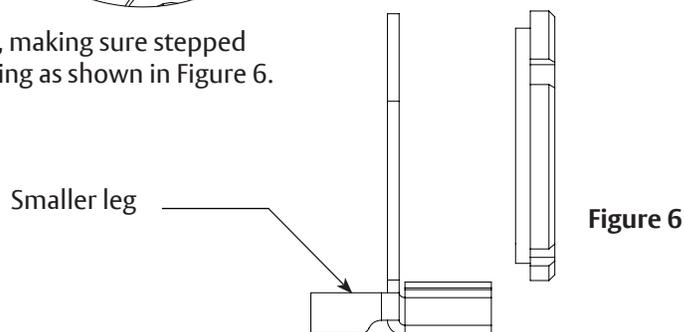

Figure 6
- c. Tighten cylinder nut into escutcheon, making sure stepped side of nut goes inside key override ring as shown in Figure 6.